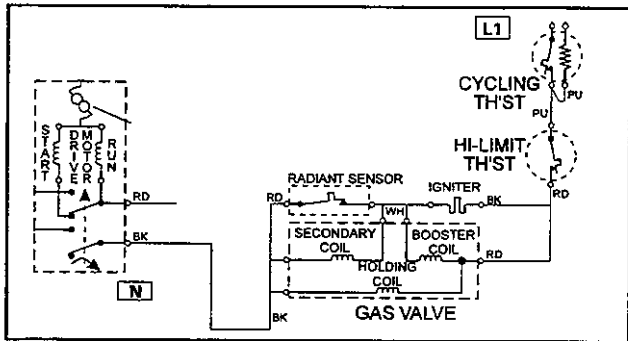

Figure 12-3
**NOTE:** On the wiring diagram the radiant sensor contacts are wired in parallel with the secondary coil (Figure 12-3). This bypasses current around the secondary coil when the radiant sensor contacts are closed. Valve 2 cannot open with the radiant sensor contacts closed.